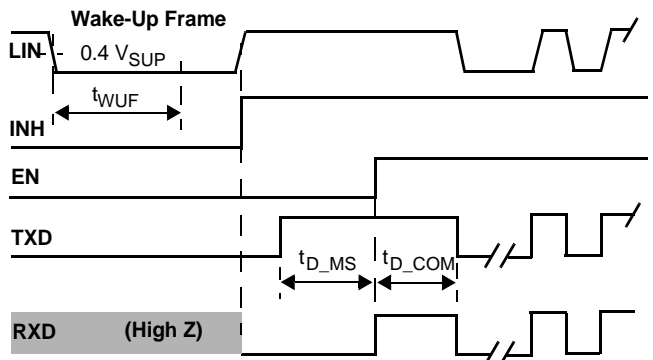

Figure 11. LIN Bus Wake-Up and Normal Baud Rate Selection (1.0 kbps to 20 kbps)
- 11 See Figures 11 and 12, 11.
The LIN bus wake-up is recognized by a recessive-to-dominant transition, followed by a dominant level with a duration greater than 70  $\mu$ s, followed by a dominant-to-recessive transition. This is illustrated in Figures 11 and 12 on 11. Once the wake-up is detected, the 33661 enters the Awake transitional mode, with INH HIGH and RXD pulled LOW.